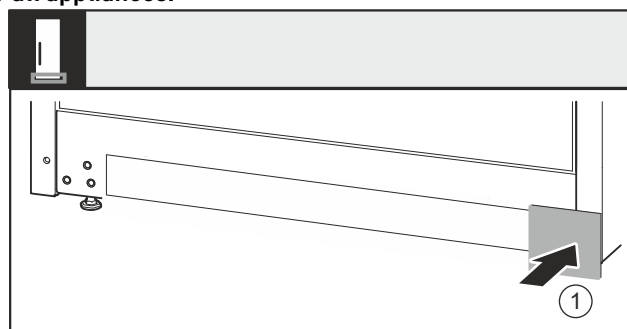

Fig. 38
- Re-attach the cover Fig. 38 (1) to the other side.